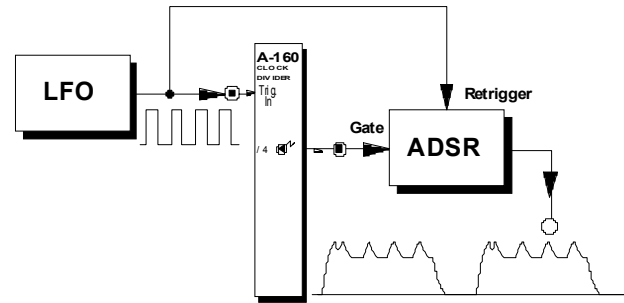

Fig. 2: ADSR envelope with retriggering
In the patch in Fig. 2, an ADSR is re-triggered by a square wave LFO, sub-divided in the A-160 by a factor of four (output ④). The original whole LFO oscillation is patched to the re-trigger input on the ADSR. In this way, a new repeating envelope is created.